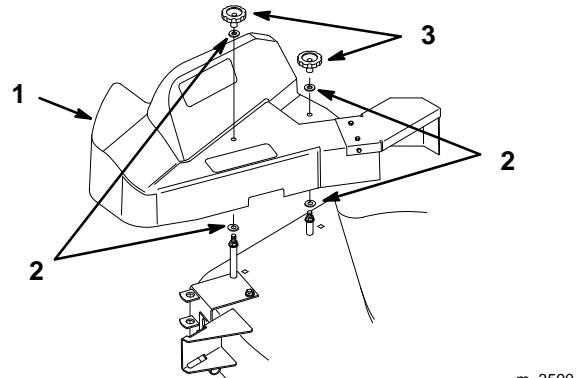

Figure 18
1. Install the blower belt cover using (4) washers and (2) knobs (Fig. 18).